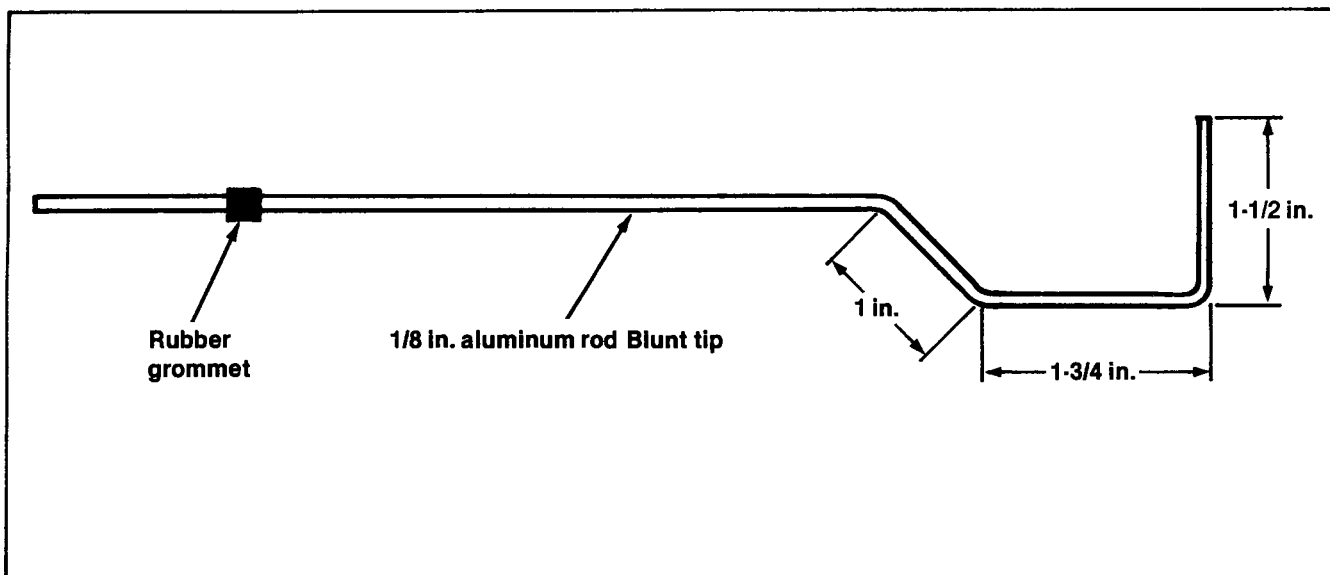

Figure 1. Alignment Tool
1. See Figure 1. Obtain a piece of 1/8 in. aluminum welding rod 25 in. long. Grind one end down to a blunt point. With a pliers, bend the rod as shown to clear the frame and extend back to the rear axle. Place a snug fitting rubber grommet on the rod to act as a slide measurement indicator.